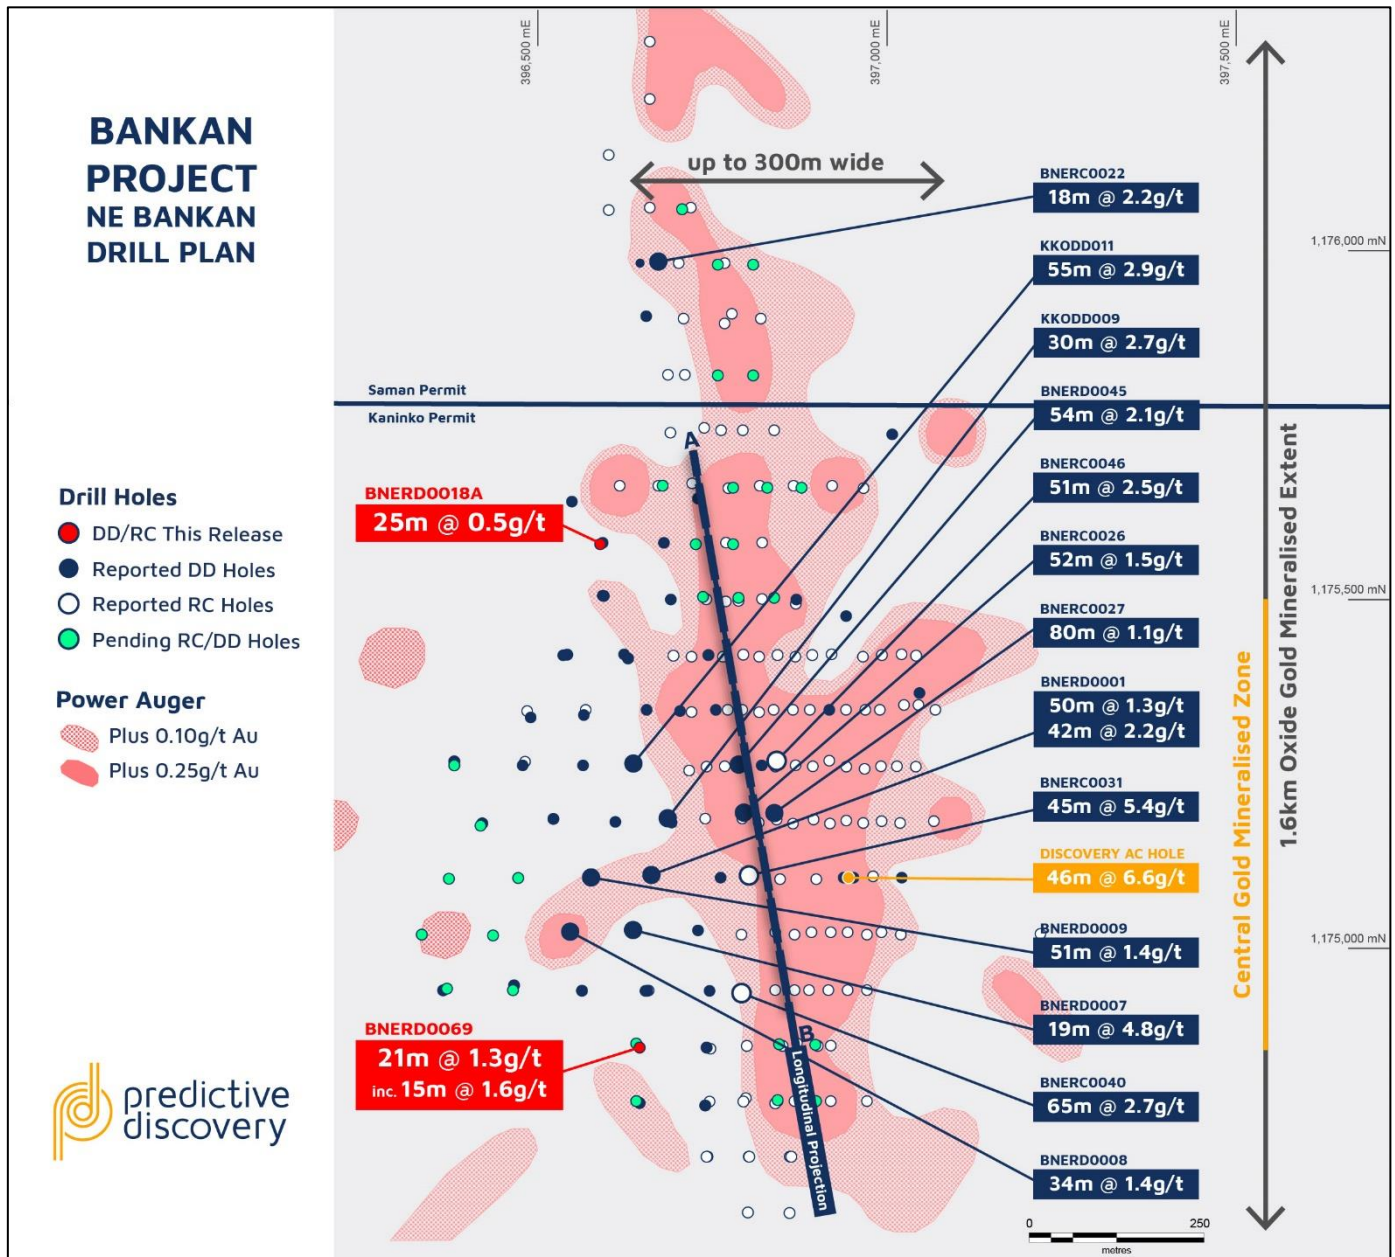

Figure 4 – Bankan Project, NE Bankan Prospect, new diamond holes and results overlay previously RC/DD results.
- The auger drilling continues to identify evidence of widespread gold in saprolite beneath shallow lateritic cover across the Bankan Project, providing numerous targets for follow-up by Air Core (AC) drilling.
- Results were also received from NE Bankan core holes BNERD0018A and BNERD0069 (Figure 4), respectively from the northern and southern extensions of the NE Bankan gold mineralised system, but outside of the core gold mineralised zone. Better results included: